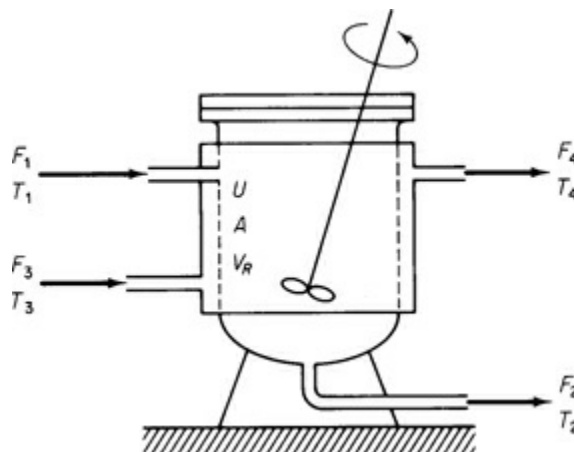

Figure P14.2
- 14.2** You are asked to perform a feasibility study on a continuous stirred tank reactor shown in Figure P14.2 (which is presently idle) to determine if it can be used for the second-order reaction